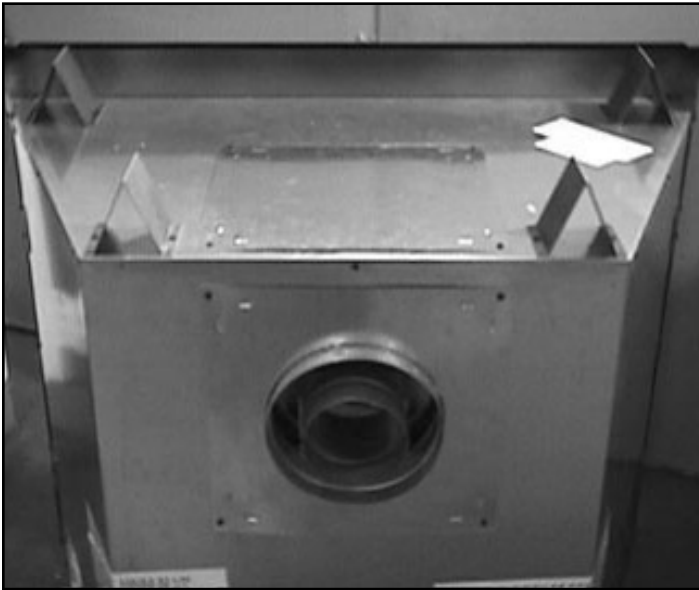

Figure 7.17 Completed Conversion
- The appliance should look like the one shown in Figure 7.17 after it has been converted to a rear vent appliance.